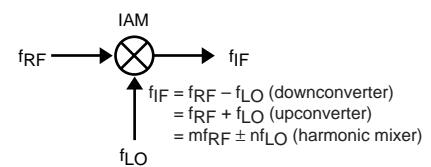

Figure 5. IAM-8 Mixer Use as a Downconverter, Upconverter, or Harmonic Mixer
The most common use of an IAM-8 series mixer is as a frequency downconverter, where the output (IF) frequency is lower than the input (RF) frequency. For this application, the signal to be converted is injected into the RF port of the mixer. An appropriate oscillator is connected to the LO port, and the $f_{RF} - f_{LO}$ mixing product is taken from the IF port as the output (downconverted) signal (Figure 5). IAM-8 MMICs will accept RF and LO signals from arbitrarily low frequencies up through 5 GHz. The IF (output) signal must be below 1 GHz for the IAM-81 mixers and below 2 GHz for the IAM-82 mixers if the MMIC is to exhibit conversion gain. IAM-8 MMICs can be operated at higher IF frequencies in applications where conversion loss is acceptable.